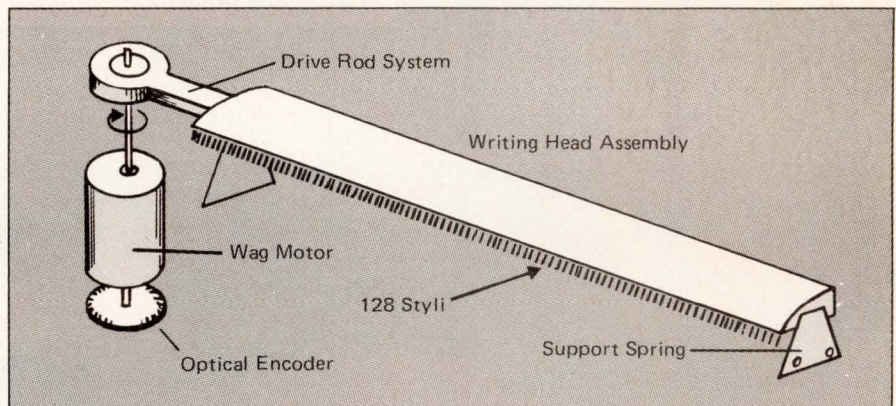

Fig. 1 CEC 912N writing head & wag system
The electric writing head assembly (Fig 1) is composed of eight stylus modules, in line, across the recording paper. Each module consists of sixteen styli, on 2mm centers, attached to beryllium copper leaf springs (Fig 2). A spring mount and drive rod system, called the "wag" assembly, moves the entire writing head in the direction of the line of styli to a displacement of 2mm. An optical encoder senses 16 equidistant positions at 0.005 inch or 1/8mm spacing as addressable picture element locations during this 2mm "wag" movement. These positions are sensed in both the left-to-right and the right-to-left scan directions. The encoder supplies direction and location status information to the data controller so that the proper time duration TTL pulse can be supplied to each stylus driver. Upon receipt of a TTL pulse, an electric arc of -160 V dc travels from each stylus through the carbon impregnated paper and to the grounded backup roller. In its travel, the arc burns a precise amount of coating from the paper surface revealing the carbon black base color. A pulse duration of $215 \mu\text{sec}$ defines the 15th scale level, or black. Lesser amounts of time produce smaller burn areas, thus, lighter shades of gray. Sixteen (16) distinct levels of gray are possible in this system. Thus, the overall picture is produced by $16 \times 8 = 128$ styli \times 16 positions each = 2048 picture elements over the 10.1 inches printing width. Each picture element has its own 16 level gray scale assigned when printed. Between wag directions and after each picture line is printed, the paper is incremented forward by a distance of 0.005 inch (1/8mm). The overall pic-